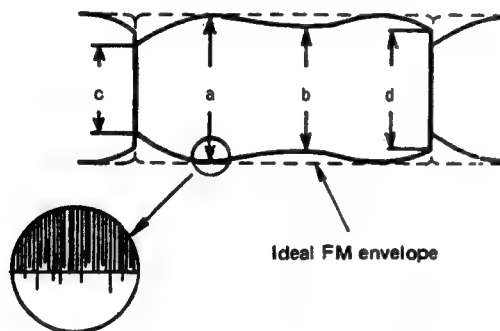

Fig. 2-57 FM waveform (max. output)
- 5) When the maximum video FM waveform, confirm the audio FM waveform (Fig. 2-57) obtained that: